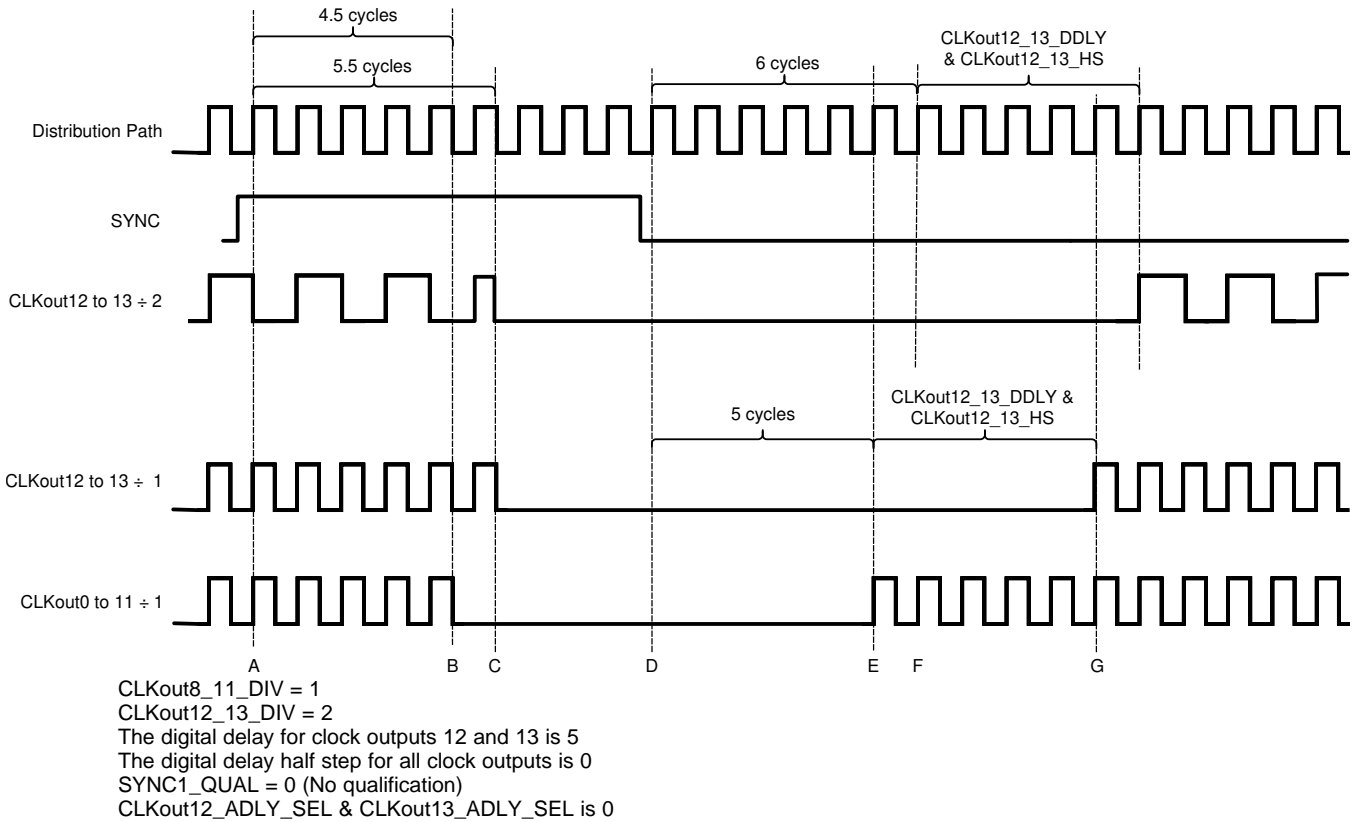

Figure 7-1. Clock Output Synchronization Using the SYNC1 Pin (SYNC1 is Active High, SYNC1_POL_INV=0)
Refer to Figure 7-1 during this discussion on the timing of SYNC. SYNC must be asserted for greater than one clock cycle of the clock distribution path to register the SYNC event. After SYNC is asserted the SYNC event will begin on the following rising edge of the distribution path clock, at time A. After this event has been registered, the outputs will not reflect the low state for 4.5 cycles for CLKout0 - CLKout11 at time B or 5.5 cycles for CLKout12 and CLKout 13 if divide = 1 or 6.5 cycles for CLKout12 and CLKout13 if divide > 1, at time C. Due to the asynchronous nature of SYNC with respect to the output clocks, it is possible that a runt pulse could be created when the clock output goes low from the SYNC event. This is shown by CLKout12-13. See Section 7.4.6.1.2 for more information on synchronizing relative to an output clock to eliminate or minimize this runt pulse for CLKout12 or CLKout13.
Step 1: The device is programmed from register R0 to R5 with values that result in the device operating as desired, see the system requirements above. The phase of all the output clocks are aligned because all the digital delay and half step values were the same when the SYNC was generated by programming register R5. The timing of this is as shown in Figure 7-1.